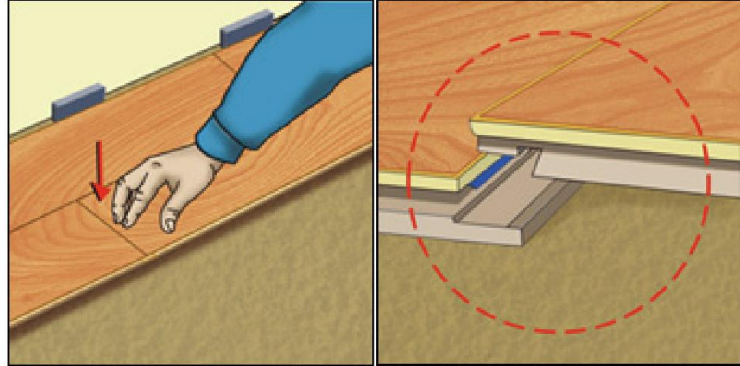

FIG. 2
- vi. Apply pressure to the planks short edge so as to activate the locking mechanism (FIG. 2). You will typically hear an audible click sound.